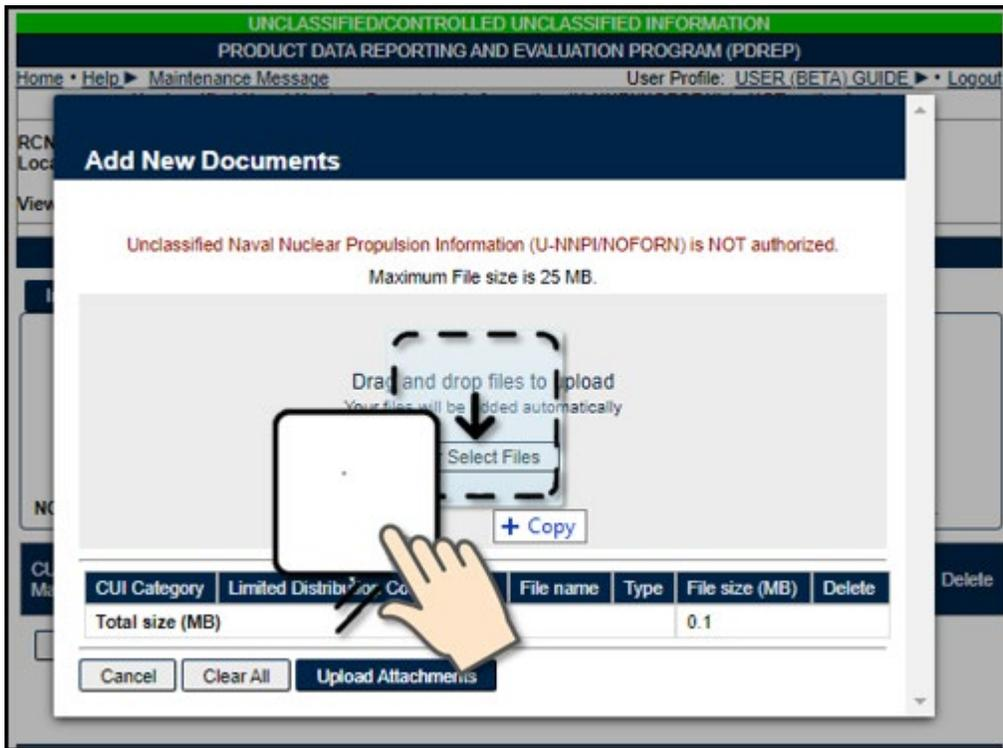

Figure 2.6
- B. When choosing to drag and drop files, you will need to “grab” your file and move it over the “Select Files” button (see **Figure 2.6**).